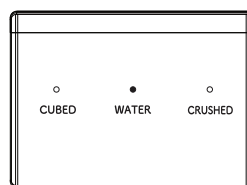

Figure 21
1. Press the WATER key until the indicator light turns on. See Figure 21.